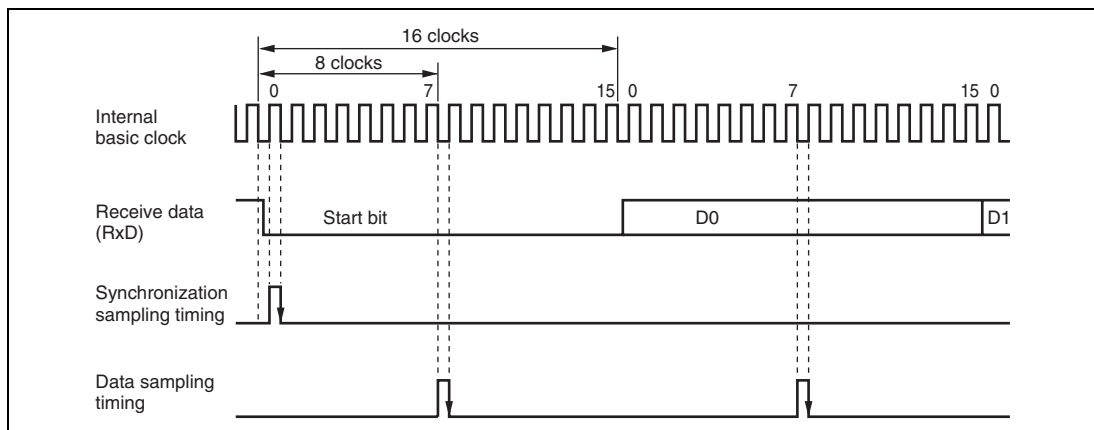

Figure 12.3 Receive Data Sampling Timing in Asynchronous Mode
In asynchronous mode, the SCI operates on a basic clock with a frequency of 16 times the bit rate. In reception, the SCI samples the falling edge of the start bit using the basic clock, and performs internal synchronization. Since receive data is latched internally at the rising edge of the 8th pulse of the basic clock, data is latched at the middle of each bit, as shown in figure 12.3. Thus the reception margin in asynchronous mode is determined by formula (1) below.